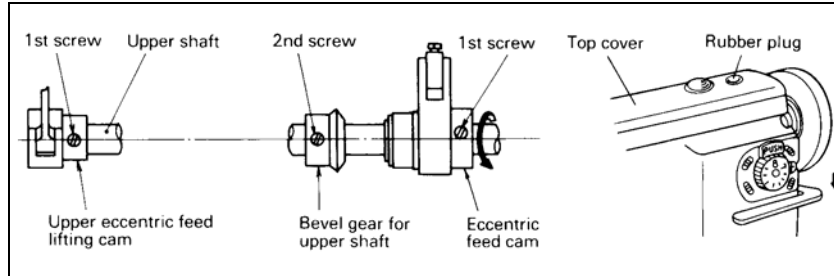

Fig.29
29、 Adjustment of feed timing (Fig.29):
- 1) The standard position of the eccentric feed cam and eccentric feed lifting cam are illustrated to Fig.29